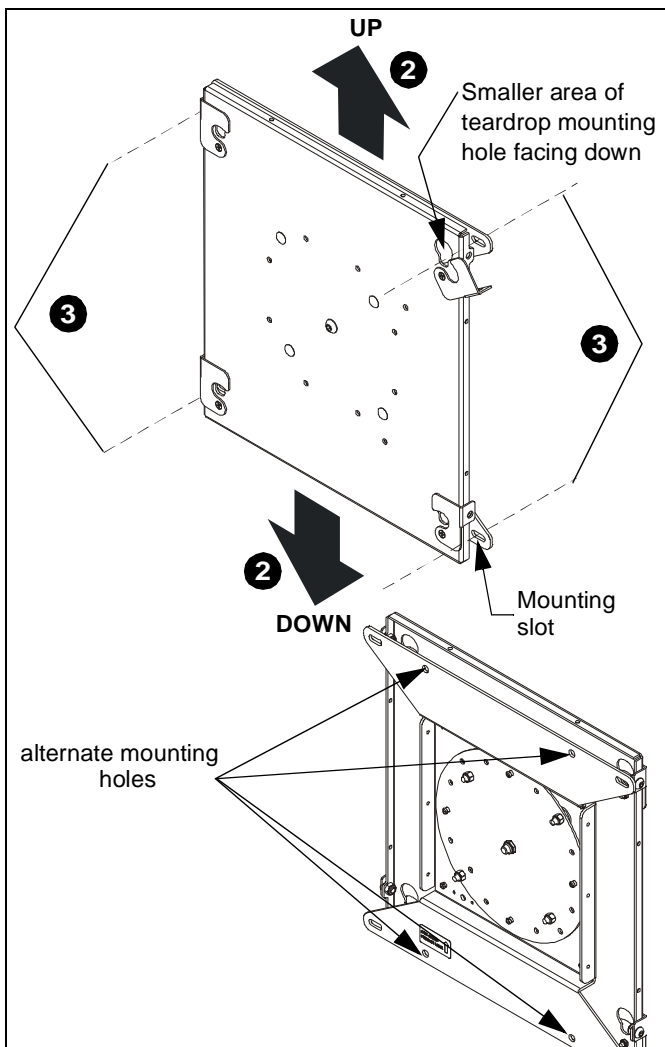

Figure 1
2. Verify that mount is oriented properly for mounting. (See Figure 1)
NOTE: Alternate mounting holes may be used for certain installations. (See Figure 1)